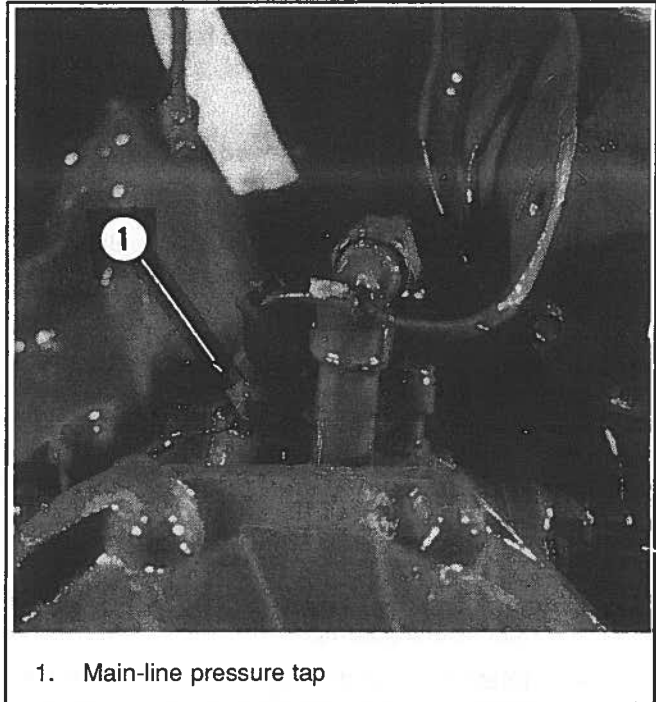

Figure 11-11. Main-Line Pressure Tap
1. Install pressure gauge as shown in Figure 11-11.